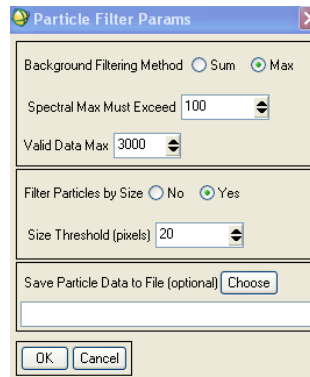

Figure 2. Particle Filter Params Box
3. The Particle Filter Params dialog box will open (see Figure 2).